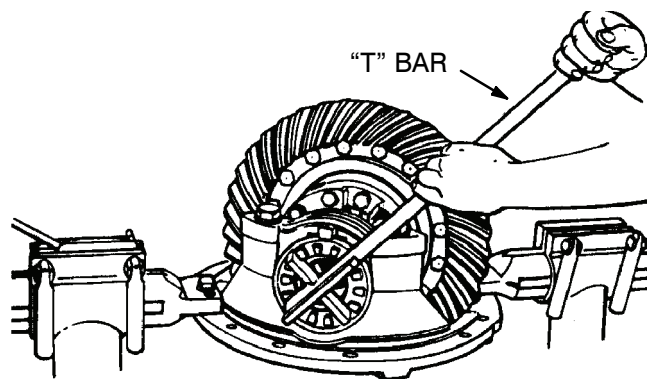

Figure 30. Adjusting Rings.
- (4) Use a "T"-bar wrench or equivalent tool to loosen the adjusting rings. DO NOT REMOVE THE ADJUSTING RINGS. If necessary, loosen but do not remove the cap screws on the bearing caps to move the adjusting rings. Figure 30.